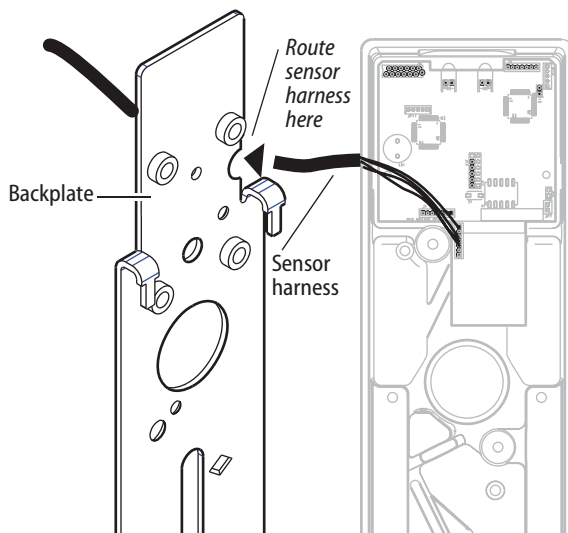

Figure 14 Re-routing the sensor harness for BEST Precision 2300 and Sargent 8800 exit devices
- 4 Re-route the sensor harness toward the top of the escutcheon to the same area as the battery cable, antenna cable and relay shunts. See Figure 14.